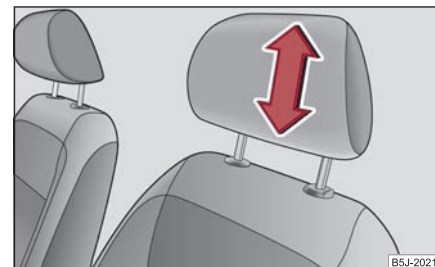

Fig. 65 Adjusting head restraint
- Grasp the side of the head restraint with both hands and push the head restraint in the direction of axle of the metal guide rods, in the direction of arrow ⇒ fig. 65 to the top or to the bottom.